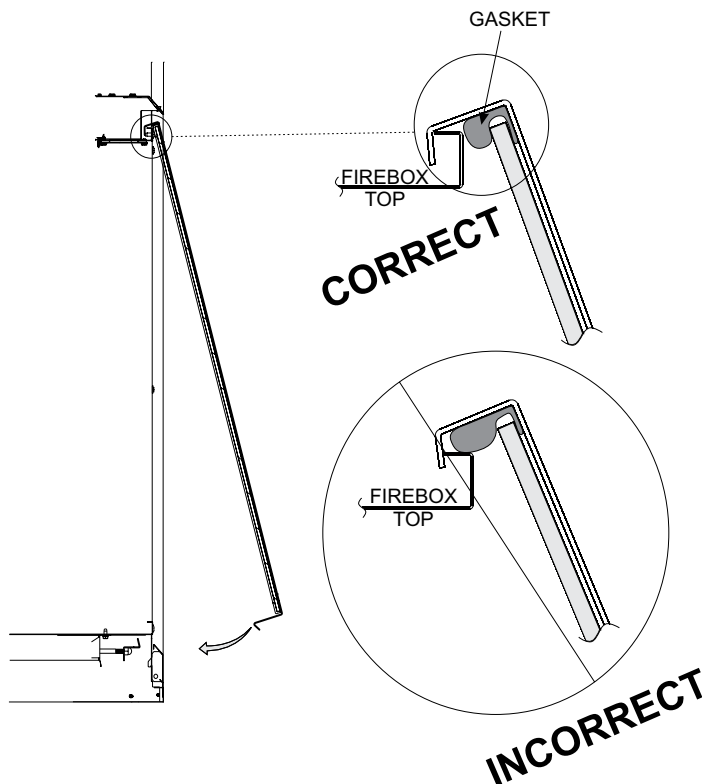

Figure 69
1. When installing the Glass Door assembly, make sure that the door top flange is hooked over the firebox top flange as illustrated in the "Correct" view in Figure 69.
Important: Do not allow the gasket across the top of the door to roll up on top of the firebox flange as shown in "Incorrect" view in Figure 69.